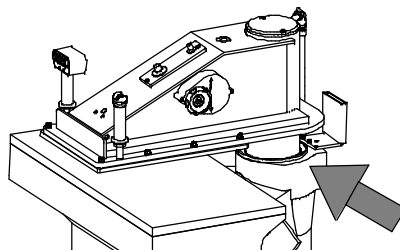

Fig. 20
c) clean with a cloth (which leaves no thread) the seal collar on the column (for S/SE108: code 01002005; for S/SE116/120C: code 01010413; for S/SE120/122/124C/124/125C/125/125L: code 01001367, tav. 1) from residuals and dusts of cut materials every month (Fig. 20);